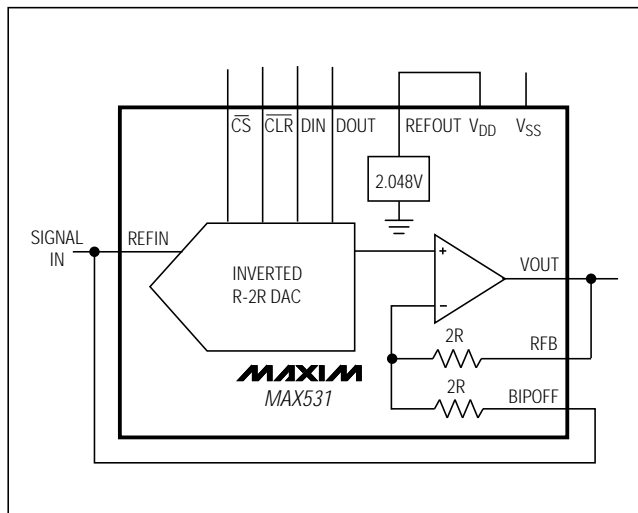

Figure 9. MAX531 Connected as Four-Quadrant Multiplier. The unused REFOUT is connected to V_{DD} .
The MAX531 can be used as a four-quadrant multiplier by connecting BIPOFF to REF \overline{IN} and RFB to VOUT, using (1) an offset binary digital code, (2) bipolar power supplies, using dual power supplies, and (3) a bipolar analog input at REF \overline{IN} within the range $V_{SS} + 2\text{V}$ to $V_{DD} - 2\text{V}$, as shown in Figure 9.